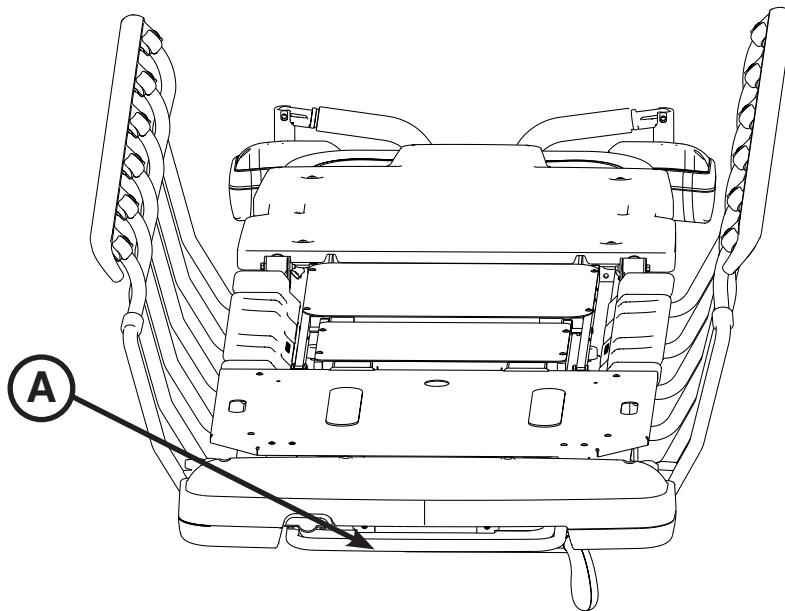

Figure 32: Pump Rack
The pump rack (A) can be used for the storage and transportation of stretcher equipment as shown in Figure 32.